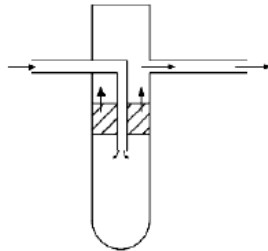

Fig.2.4 - Full-flow filter
- **Full flow filters:** In this type, complete oil is filtered. The full flow of oil must enter the filter element at its inlet and must be expelled through the outlet after crossing the filter element fully (Fig. 2.4). This is an efficient filter. However, it incurs large pressure drops. This pressure drop increases as the filter get blocked by contamination.